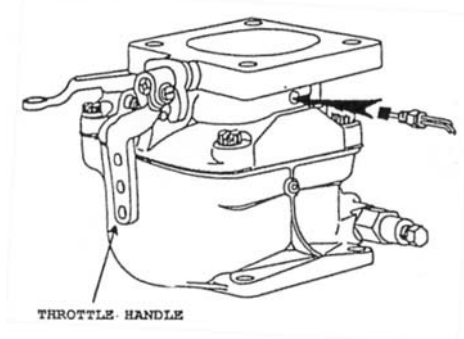

FIGURE 1
The following instructions describe a procedure by which this plug is removed, the hole enlarged and threaded, so that the probe can be securely mounted at a point adjacent to the butterfly valve where it will detect impeding danger of carburetor icing (see Fig. 1, 2 and 3).
4. For pre-drilled and tapped carburetors remove the brass plug, (see Fig. 1, 2 and 3), and using the procedure in Step 7 above, install the probe as per Step 7, being careful not to bend the probe components.